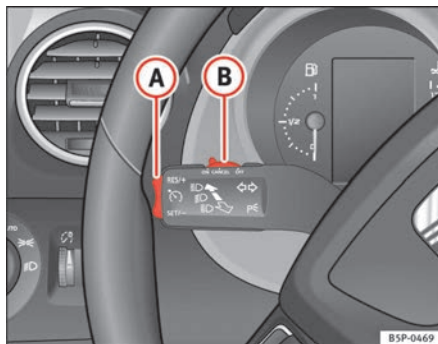

Fig. 147 Indicator and main beam headlight lever: switch and rocker switch for the cruise control
- Push the switch ⇒ fig. 147 (B) to the left to **ON**.